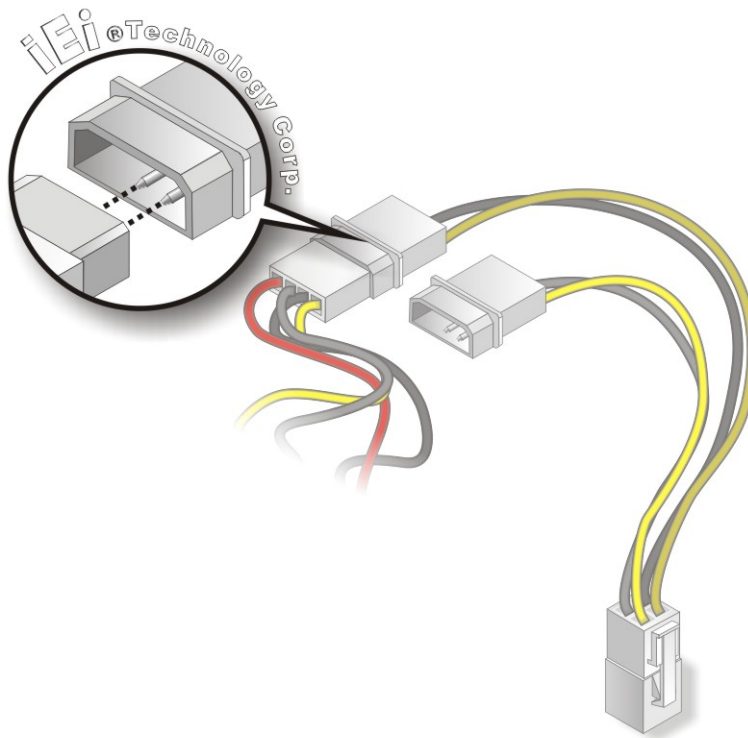

Figure 4-13: Connect Power Cable to Power Supply
Step 3: Connect Power Cable to Power Supply. Connect one of the 4-pin (1x4) Molex type power cable connectors to an AT/ATX power supply. See Figure 4-13.